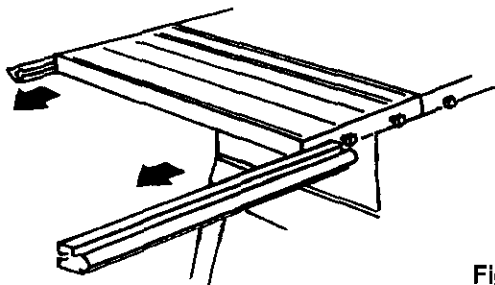

Fig. 2
- Remove front and rear rails by loosening the four 5/16-18 hex nuts holding the left table extension to the rails, as well as the two 5/16-18 hex nuts securing the left side of the main table to the rails. The nuts are located on the underside of the table. Slide left sections of both front and rear rails off. See Figure 2.